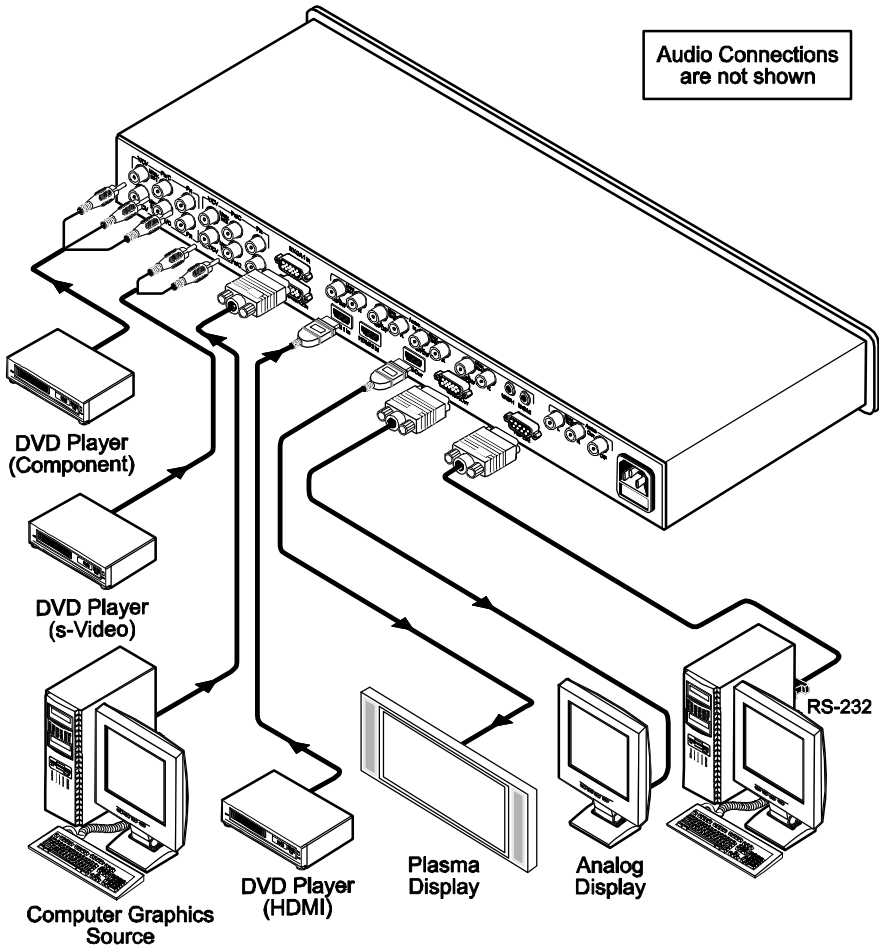

Figure 3: Connecting the VP-728 Rear Panel
To connect¹ the **VP-728** as illustrated in the example in Figure 3, do the following²:
- A graphics data source (for example, JPEG files from a PC or a USB flash drive) to the USB connector on the front panel of the machine (not illustrated in Figure 3)
2. Connect the unbalanced stereo or digital audio sources⁵ (not illustrated in Figure 3):
4. Connect the AUDIO OUT L and R unbalanced stereo audio output and/or the S/PDIF digital audio output to audio acceptors, for example, speakers (not illustrated in Figure 3).
5. Connect the power cord¹ (the power connector is not illustrated in Figure 3).